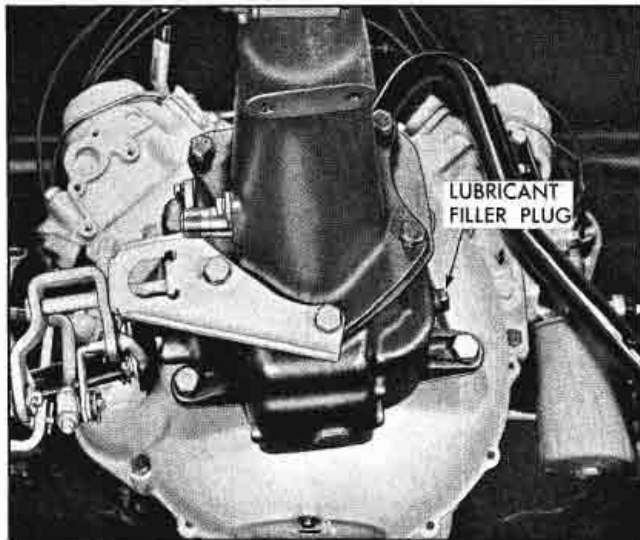

Fig. 7-29 Synchro-Mesh Transmission Filler Plug
1. Remove drain plug at bottom of transmission (Fig. 7-29) and drain lubricant.